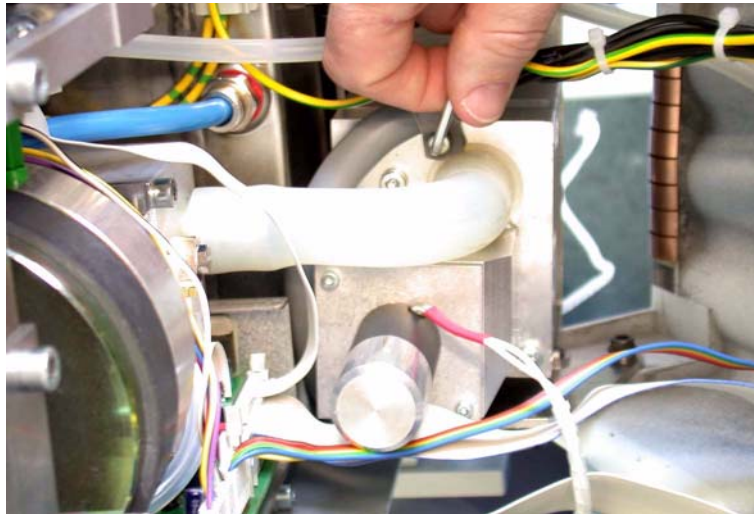

Figure 11-30. Removing the cable grip
2. Remove the hexagonal-drive (Allen) screw holding the cable grip in place on top of the safety valve block. (Figure 11-30.)